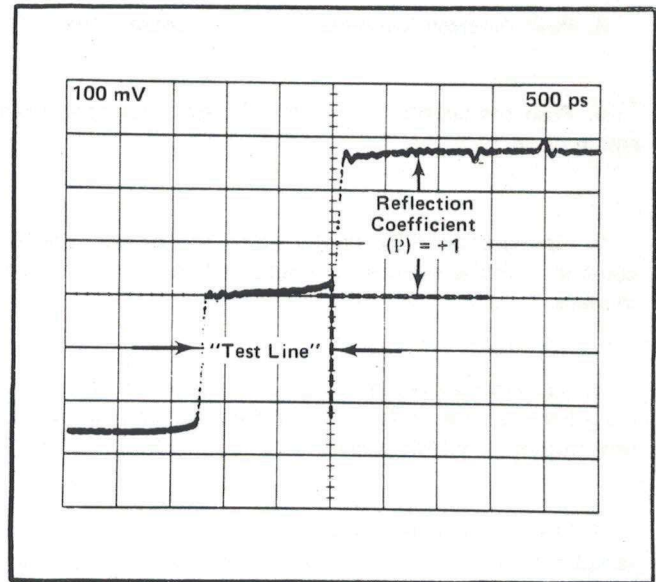

Fig. 2-3. Display with unterminated "Test Line".
14. Add a short length of 50  $\Omega$  coaxial cable to the same connector. (This example uses a 500 ps, 50  $\Omega$ , semi-rigid coaxial cable with a length of about 4 inches). See Fig. 2-3. The open line shows a reflection coefficient ( $\rho$ ) of about +1.